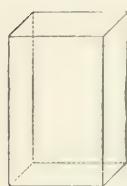

FIG. 50.
87. A **parallelopipedon** (Fig. 50) is a prism whose bases (ends) are parallelograms.